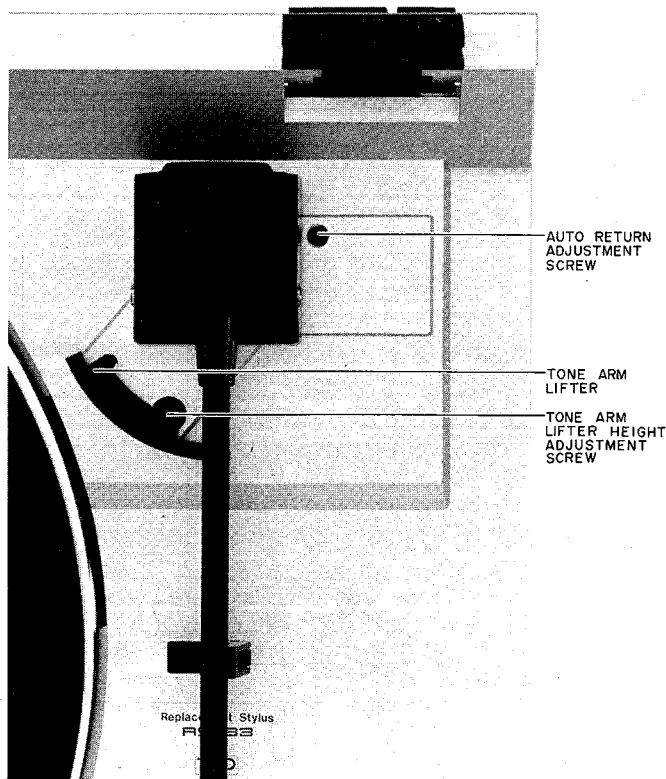

Fig. 7-1
a) WHEN AUTO-CUT (AUTO-RETURN) MODE (Refer to Figs. 7-1 & 7-2)
(Refer to Fig. 7-1)